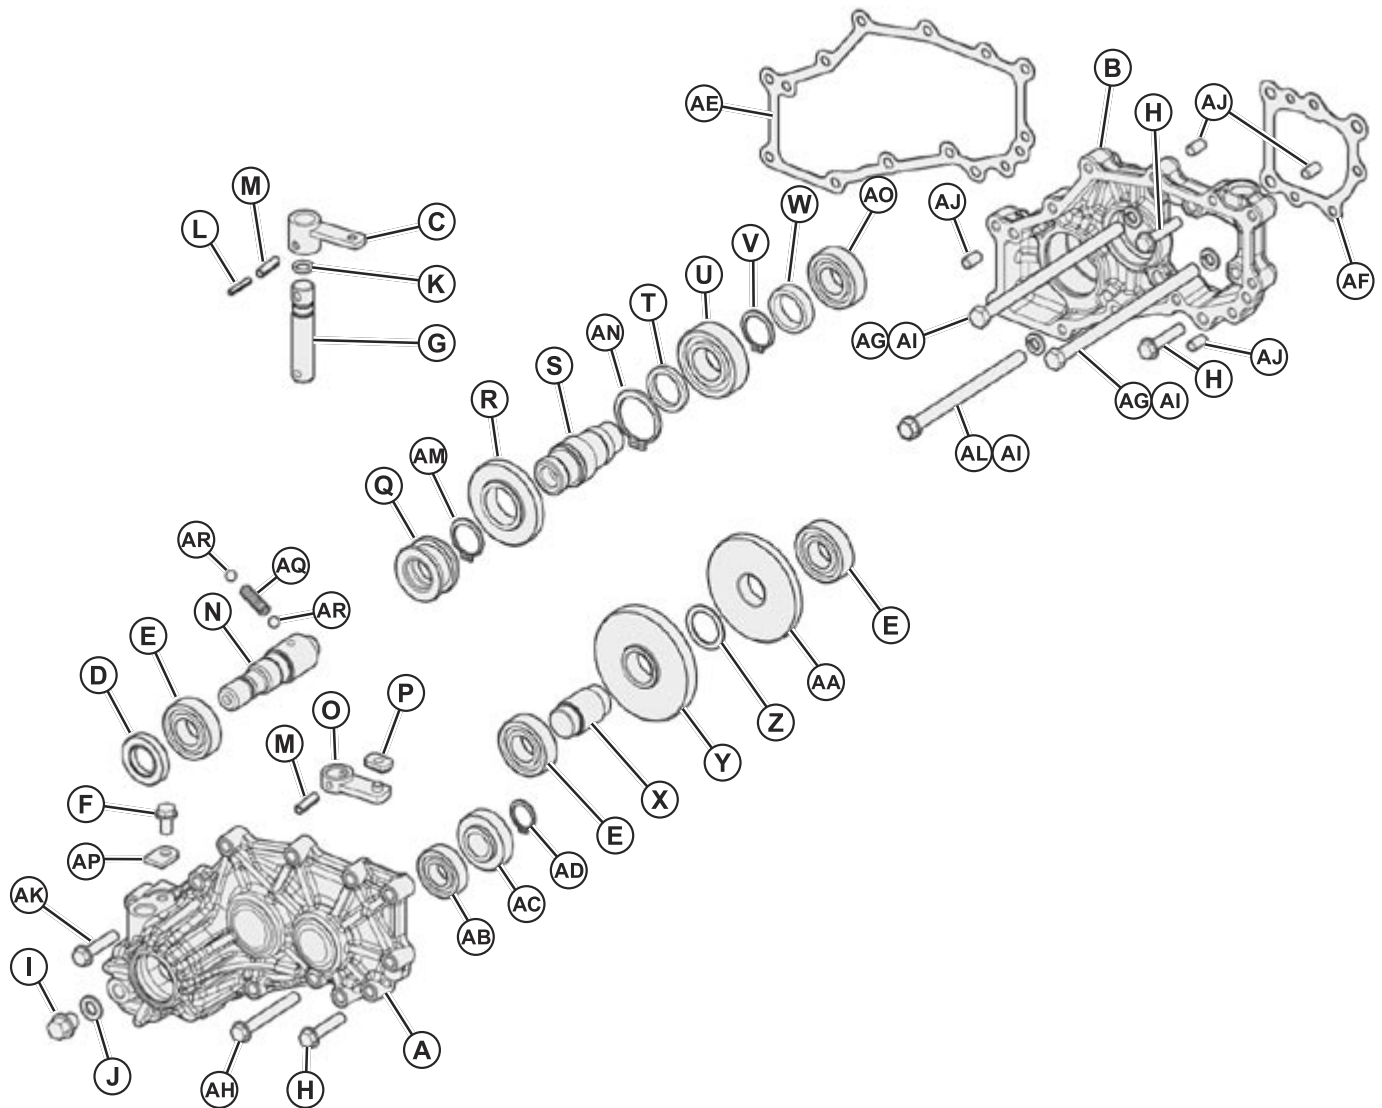

Fig. 52, 4WD Output Disassembly
NOTE: Snap ring (AD) on motor shaft does not need to be removed for the 4WD gear case removal. Unless replacement is necessary. (Fig. 52).
NOTE: Replace O-ring (K, see fig. 52) on 4WD shift shaft when reinstalling.
22. Inspect sleeve on 4WD output shaft (N) for wear. Replace, as necessary.
23. Inspect splines on 4WD output shaft (N) and shift collar (Q) for damage. Replace as required. (Fig. 52)
24. Inspect groove in shift collar (Q) for scoring or damage. Replace as required.
Replace the gasket (AE, see fig. 52), and gasket (AF, only if 4WD gear case was removed) or use a thin bead of silicone sealant between motor case assembly and 4WD gear case. Also, between 4WD gear case and 4WD cover.